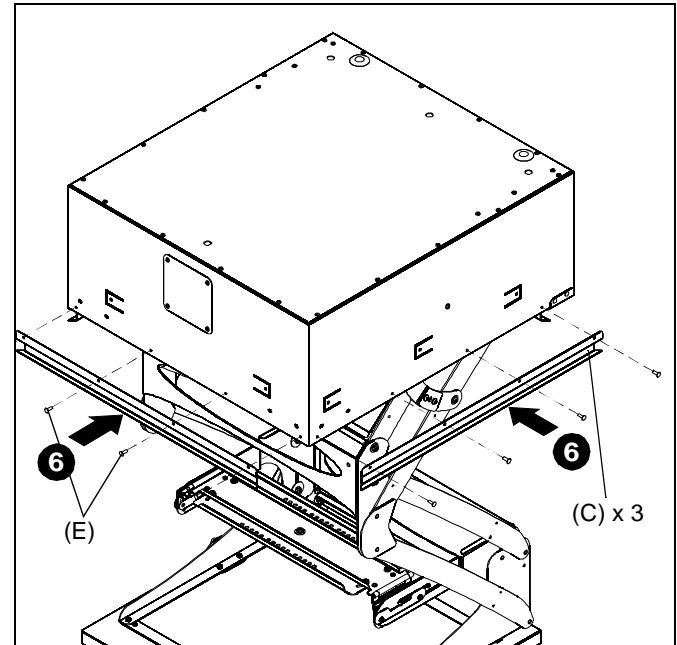

Figure 3
6. Replace trim on sides and front with trim pieces (C), and rivet in place with rivets (E). (See Figure 3)